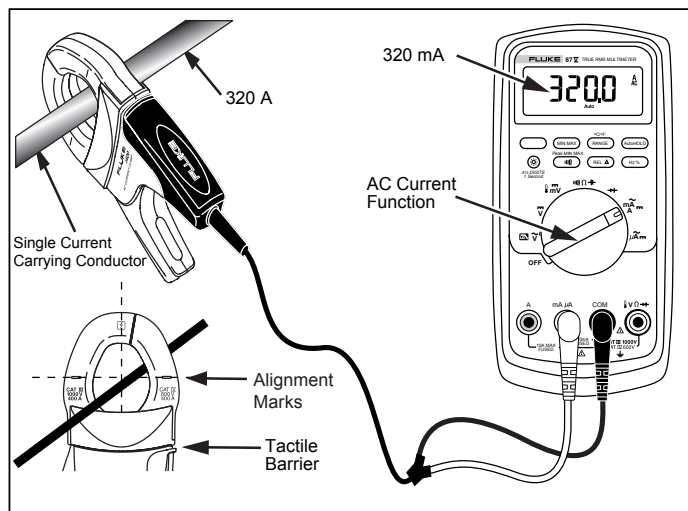

Figure 1. i400 Setup
- Do not hold the Current Clamp anywhere beyond the tactile barrier, see Figure 1.
To use the i400, (refer to Figure 1):
3. Clamp the i400 around the current-carrying conductor to be measured. Make sure the jaws are tightly closed around the conductor. The Current Clamp is designed for highest accuracy when the conductor is centered on the jaw's alignment marks, see Figure 1.
**To avoid shock or personal injury, keep fingers behind the tactile barrier, see Figure 1.**
4. Multimeter readings displayed in milliamperes (mA) can be read directly as amperes of input current. Readings displayed in amperes (A) must be multiplied times 1000 to obtain the amperes of input current.